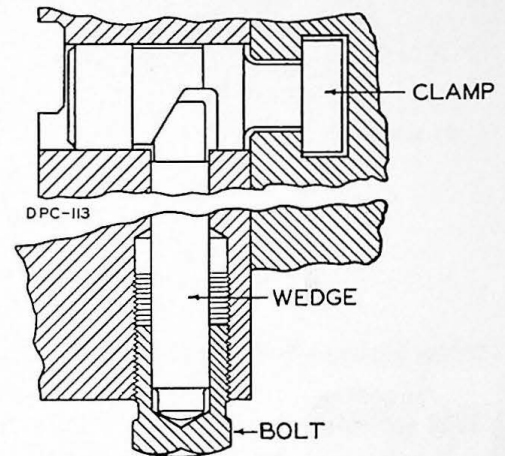

FIGURE 12
2. Remove four hexagon head ($1\frac{1}{16}$ " across flat) clamp screws and wedges under them. See Figure 12.